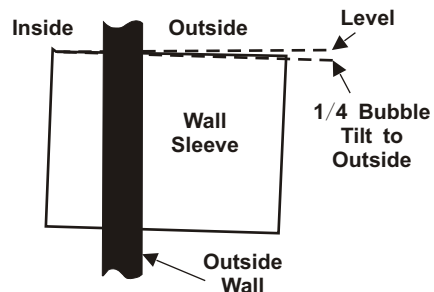

Fig 6 Proper Sleeve Tilt
- A slight downward pitch from the indoor side to the out-door side as shown below (Fig 6) .